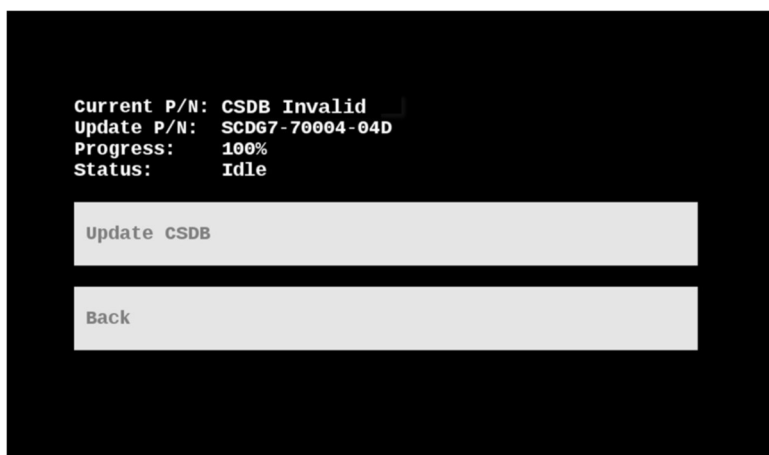

Figure 24: status "idle" on Fail-safe GUI CSDB Upload page
- f. Wait until the status changes to "idle" (Figure 24).